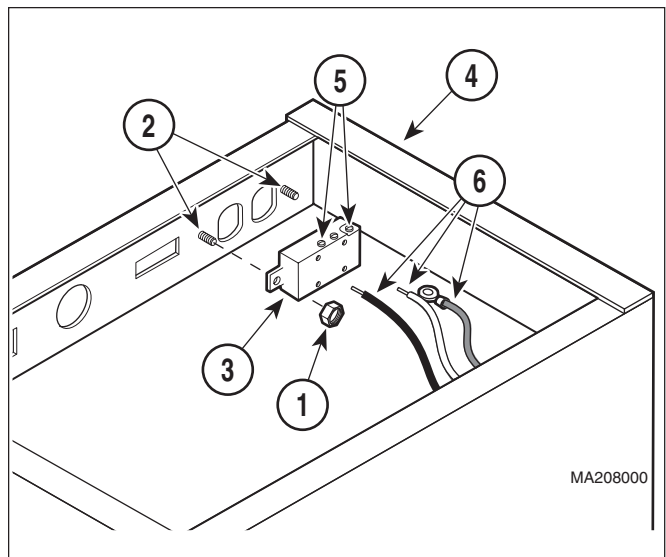

Figure 4-7. Front Receptacle Removal / Installation
- (2) Remove two nuts (1, Figure 4-7) from studs (2).